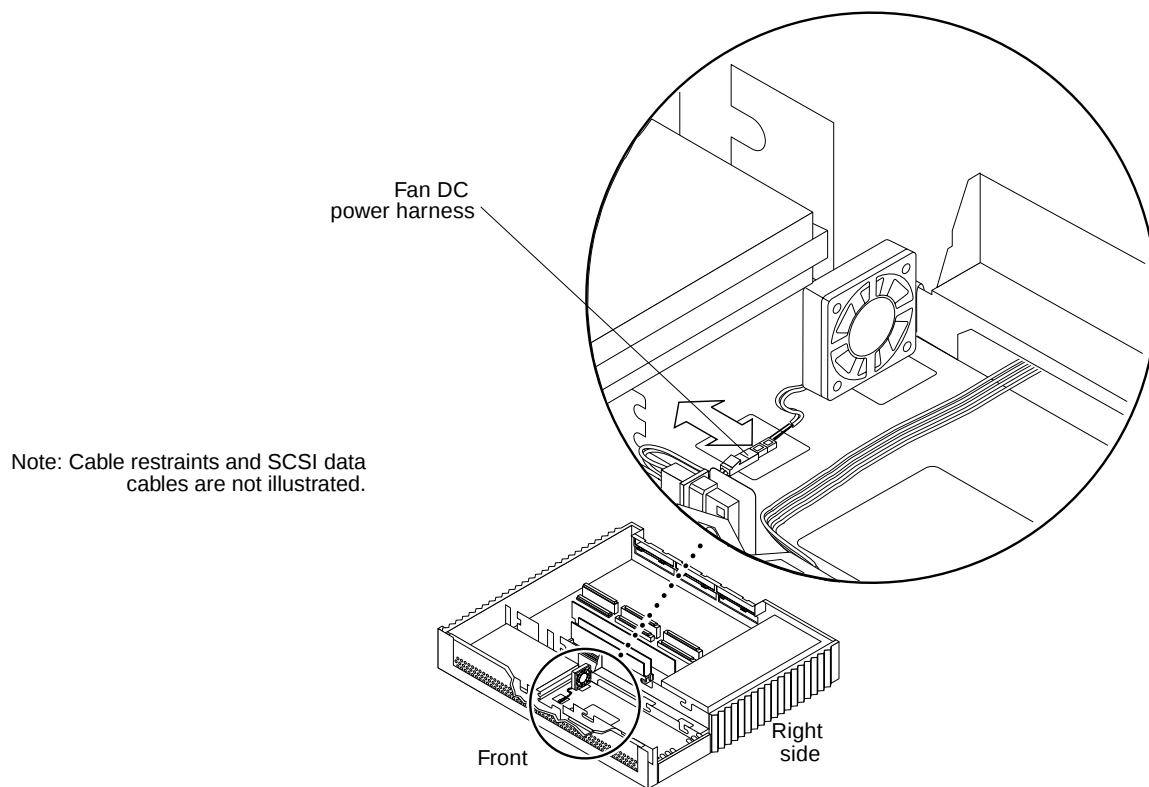

FIGURE 8-18 Fan DC Power Harness and Cable Restraint
3. Detach the fan DC power harness from under the cable restraint near the CD-ROM drive data cable (FIGURE 8-18).